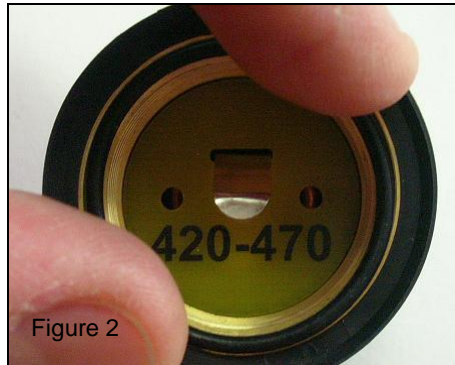

Figure 2
3. Pre-Installation (Figure 2):
- Ensure O-ring is properly seated within O-ring groove as shown in Figure 2.
- Important:** Verify proper operational frequency is stamped on the base of the coil as shown in Figure 2.